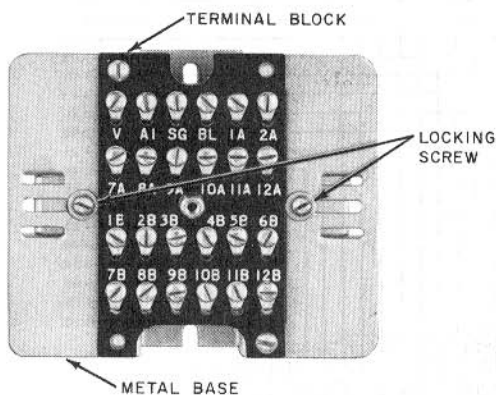

Fig. 4—149A (MD) Adapter, Cover Removed
- Consists of terminal block (Fig. 4), one KS-16671,L1 plug, and one KS-16672,L1 receptacle assembled on a metal base.